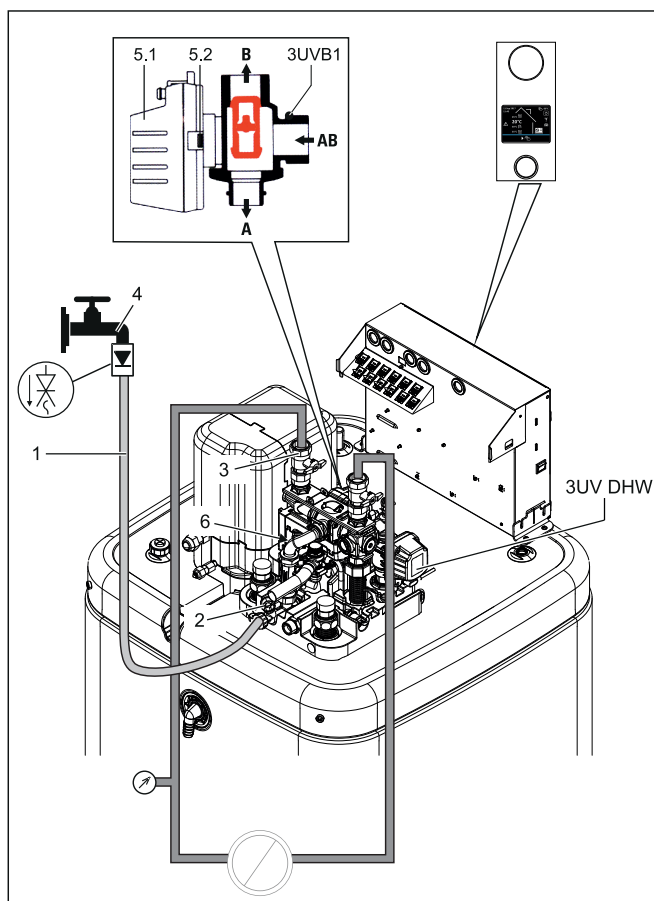

Fig. 7-2 Filling the heating circuit
- 1 Connect the filling hose (Fig. 7-2, item 1) with the non-return valve (1/2") and an external pressure gauge (on the building side) to the combined filling and draining valve (Fig. 7-2, item 2) and secure it against slipping off with a hose clamp.
- 3 Open the water tap (Fig. 7-2, item 4) on the feed pipe.
- 4 Open the combined filling and draining valve (Fig. 7-2, item 2) and monitor the pressure gauge.
- 7 Close the water tap (Fig. 7-2, item 4). The combined filling and draining valve must remain open in order to read off the water pressure on the external pressure gauge.
- 10 Constantly check the water pressure on the external pressure gauge during hot water heating mode, and top up water via the combined filling and draining valve (Fig. 7-2, item 2) if necessary.
- 12 Again check the water pressure on the external pressure gauge, and top up water via the combined filling and draining valve (Fig. 7-2, item 2) if necessary.
- 13 Disconnect the filling hose (Fig. 7-2, item 1) with non-return valve from the combined filling and draining valve (Fig. 7-2, item 2).
Tab. 7-2 Legend for Fig. 7-2